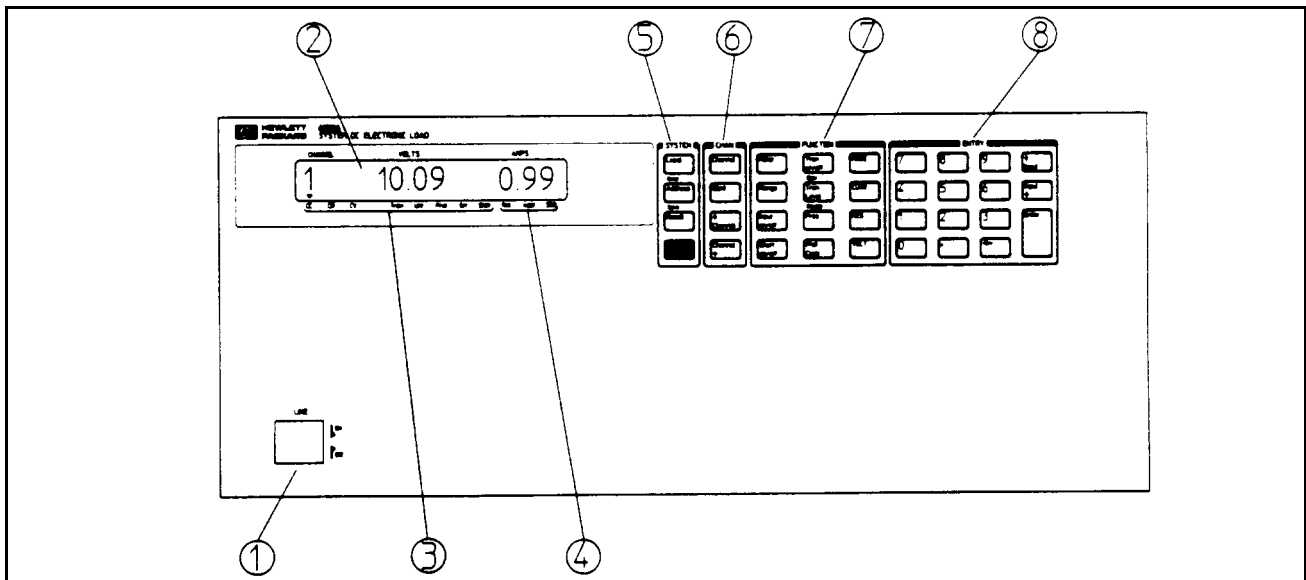

Figure 4.1. HP 6050A Front Panel
The Multiple Electronic Load can be programmed locally using the controls and indicators on the front panel. As shown in Figure 4-1, the front panel's controls and indicators include a 12-segment LCD display and a keypad having four groups of keys (SYSTEM, CHAN, FUNCTION, and ENTRY). Table 4-1 gives a brief description of each control and indicator.
2 LCD Display	Normally displays the selected input channel number and the actual voltage and current at that input, for example, "1 10.09 0.99" as shown in Figure 4-1. When programmed from the front panel, the channel number and the function being programmed are displayed. For example, "1 CURR 1.000" indicates that the channel 1 CURR function is set to 1.00 amperes.
<p>3 Electronic Load Status Annunciators</p>	<p>CC-Indicates the selected channel is in the constant current (CC) mode. Note that Figure 4-1 illustrates that channel 1 is in the CC mode (CC annunciator is on).</p> <p>CR-Indicates the selected input channel is in the constant resistance (CR) mode.</p> <p>CV-Indicates the selected input channel is in the constant voltage (CV) mode.</p> <p>Tran-Indicates that transient operation is enabled for the selected input channel.</p> <p>Unr-Indicates that the selected input channel is unregulated (applies only in the CC mode and in the middle and high ranges of the CR mode).</p> <p>Prot-Indicates when channel protection features (CC, OV, OP, OT, etc.) are active on any channel.</p> <p>Err-Indicates that remote programming error(s) have occurred.</p> <p>Shift-Indicates that the shift key, bottom key (blue) in SYSTEM group, was pressed.</p>